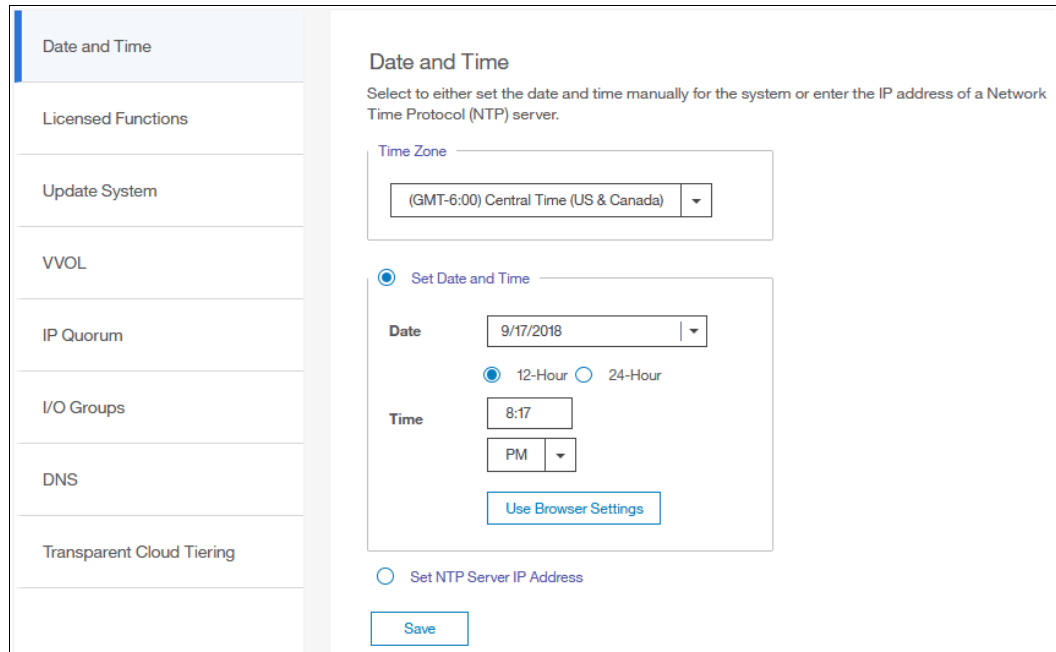

Figure 7-41 Date and Time window
2. In the left column, select **Date and Time**, as shown in Figure 7-41.